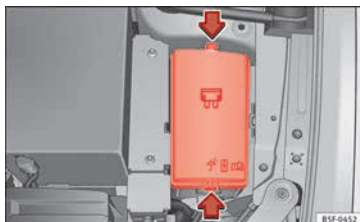

Fig. 102 In the engine compartment: fuse box cover
- Press the locking tabs to release the fuse box cover » **Fig. 102**.